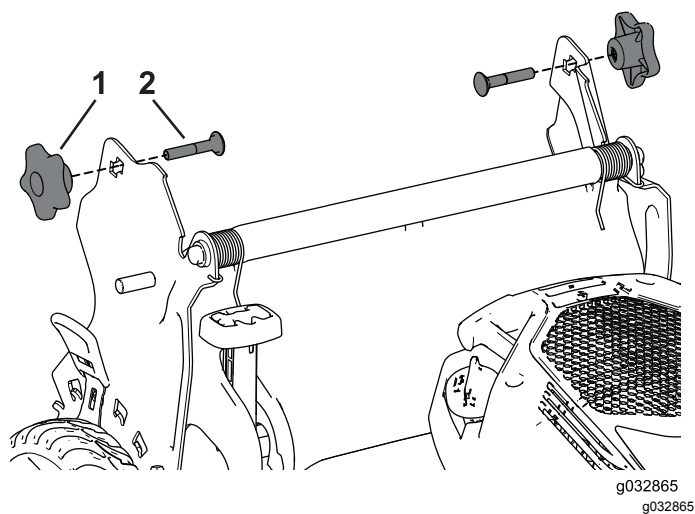

Figure 25
4. Insert the carriage bolt (with the bolt head toward the inside) through the handle bracket and the upper hole in the handle end. Ensure that the square edges of each carriage bolt fits into the upper or lower square hole in its related handle bracket (Figure 25).